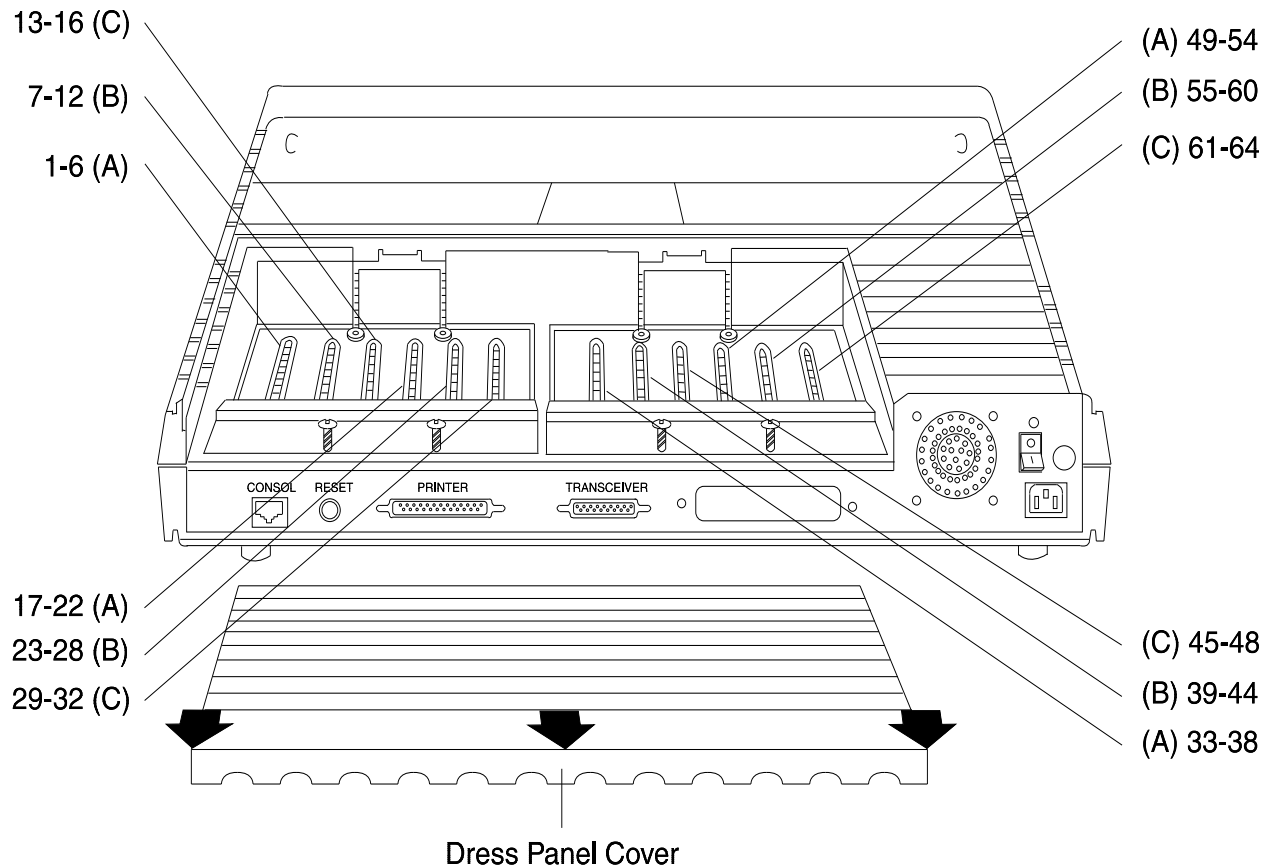

Figure 9-3: Network Terminal Server — PBX-Champ Connectors and Port Definitions
- For 64-port NTS, check the three cables (A, B, and C) that run from the NTS to each NTS patch panel (see Figure 9-3). Check to see that the cables are correctly seated at each end.